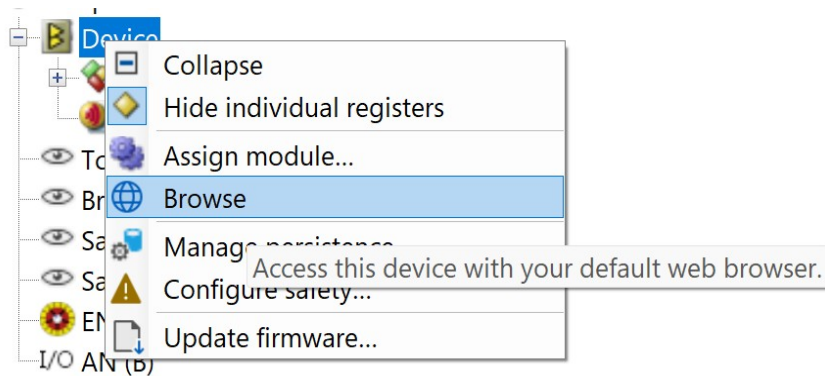

Figure 25: Browse a device’s web interface
2. Download directly from the device’s web interface. You can open the web interface of a device by right-clicking it and select Browse, refer to Figure 25. After having opened the device’s start page, go to directory in order to find all TAM Snapshots available. Select the most recent one by checking the timestamp.